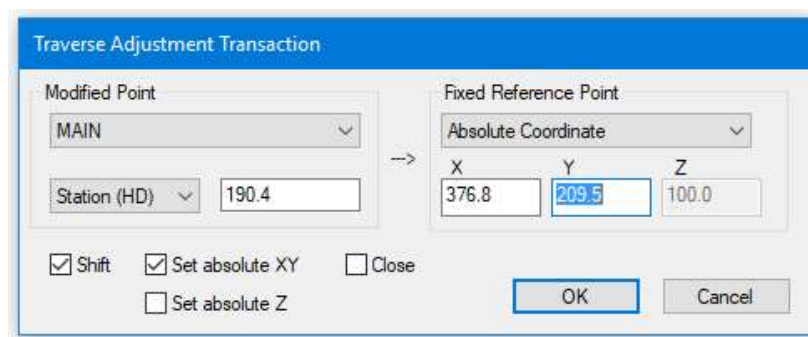

Figure 5-9: Traverse Adjustment Transaction Dialogue Box
4. Press the *New...* button, and change the information in the dialogue box to match the figure 5.9. Note that both *Shift* and *Set absolute XY* is checked. Press *OK* and then press *Apply*.